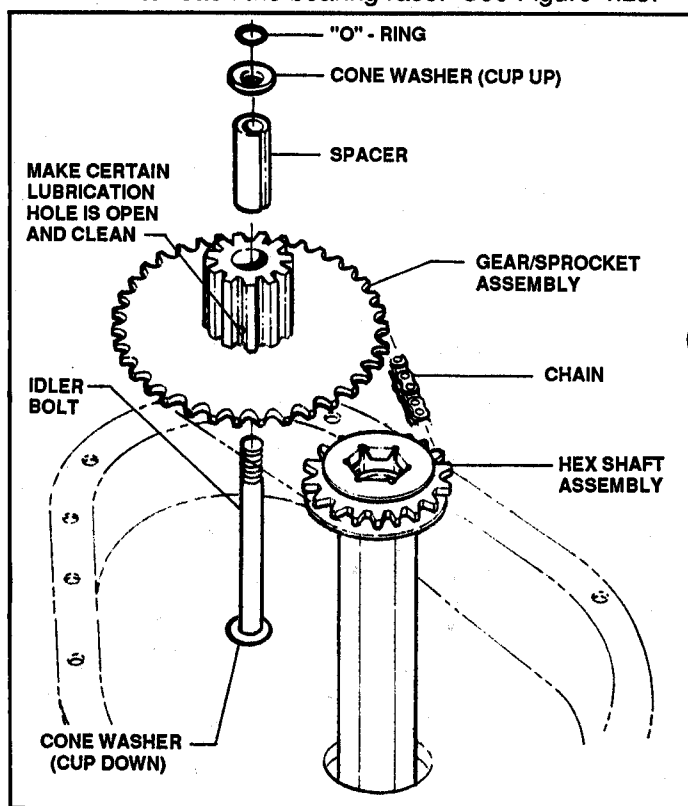

FIGURE 4.29
17. Assemble spacer, sprocket and chain, and install as a unit in case. (There is not enough clearance to install the chain and sprocket individually). Make sure the hole in the 11-tooth gear is clean - this allows lubrication to reach the bearing race. See Figure 4.29.